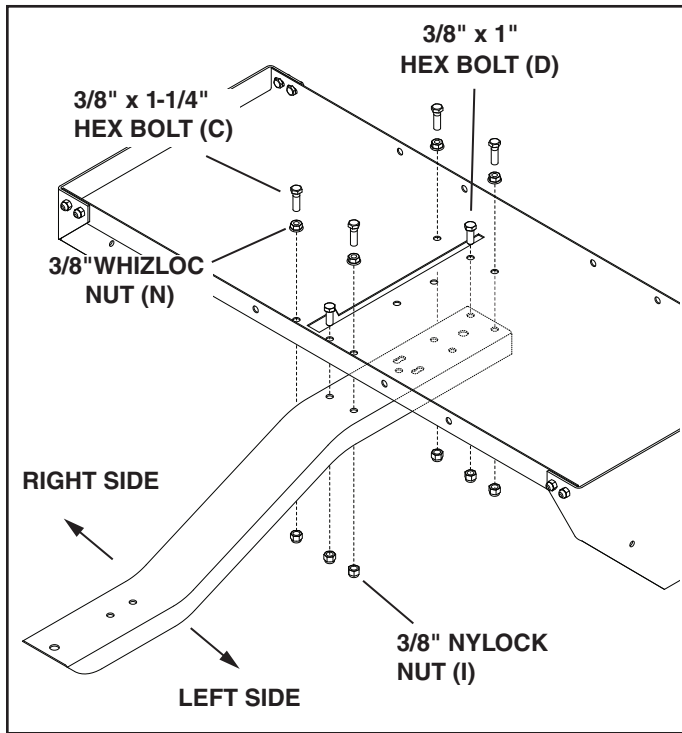

FIGURE 8
**IMPORTANT:** Make sure the tray is turned so that the locking notch is at the front as shown in figure 8.
- Assemble the tongue to the tray using two 3/8" x 1" hex bolts (D), two 3/8" x 1-1/4" hex bolts (C), two 3/8" whizloc nuts (N), and four 3/8" nylock nuts (I) as shown in figure 8. **Tighten.**
- Assemble two 3/8" x 1-1/4" hex bolts (C), two 3/8" whizloc nuts (N) and two 3/8" nylock nuts (I) to the holes on the other side of the slot in the tray. **Tighten.** See figure 8.